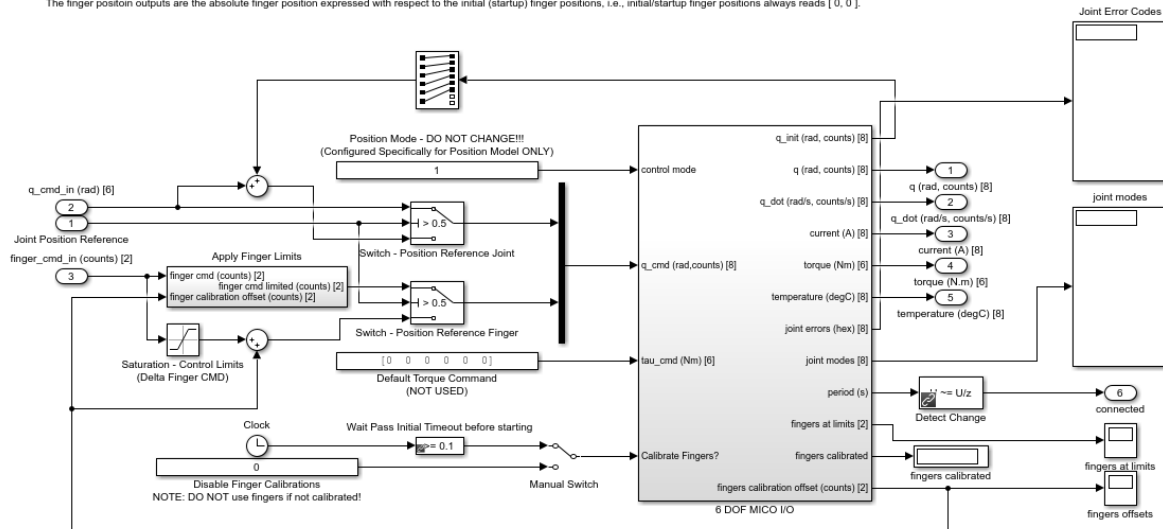
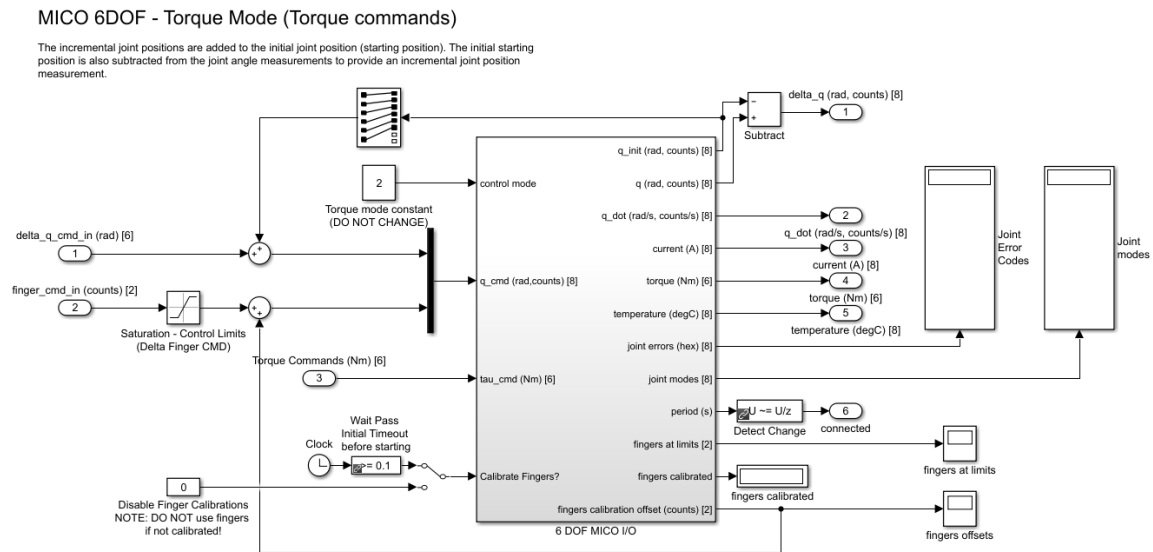

Figure 4.3: 6 DOF Position Mode (Joint Commands) subsystem
Figure 4.4: MICO 6 DOF - Torque Mode subsystem block
The interior of the *MICO 6 DOF - Position Mode (Joint Command)* subsystem is shown in Figure 4.3. The input joint commands can be either absolute (DH) joint positions or incremental joint position commands (based on the initial joint positions). The position reference mode is selected by the value of the “Position Reference” input:
- **Incremental (0):** position commands based on initial joint positions
- **Absolute/Global (1):** position commands based on D-H convention reference (HOME) coordinates
This is analogous to the subsystems described in 4.2. Torque-based control models such as MICO_Position_Control_Torque_Mode include a subsystem block called *MICO 6DOF Torque Mode (Torque Commands)* shown in Figure 4.4. It has some of the functionality as the *Kinova MICO - 6 DOF Position Motion Control* shown in Figure 4.3, but includes the ability to apply torque commands to each joint directly (instead of commanding joint positions) and includes the *Joint Safety* block. For torque mode models, this block does not provide a Joint Position Reference option, that is, in position mode, joint commands and readings are always incremental.